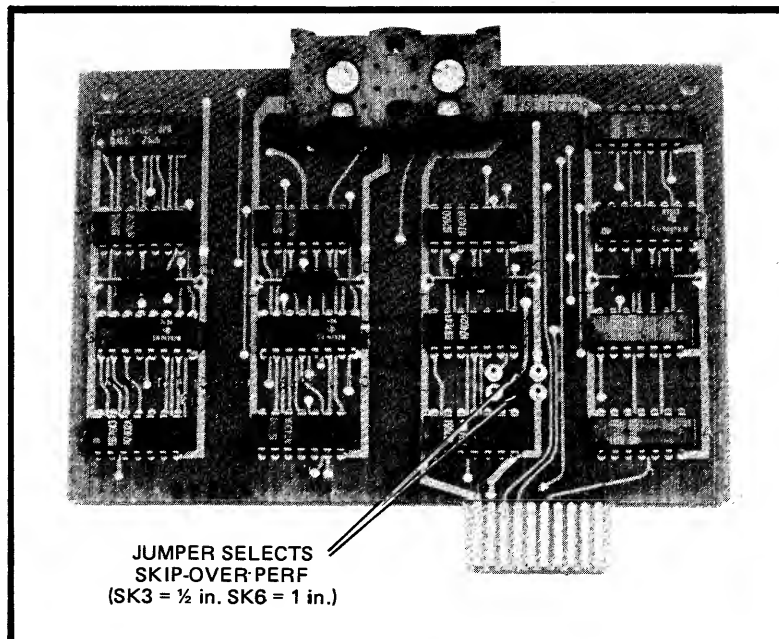

Figure 25. Forms Length Selector PCBA
a. Install the wire jumper on the PCBA (figure 25) to select Skip-over Perforation distance. For a skip-over of ½ inch, install a wire jumper across pads marked SK3. For a skip-over of 1 inch, install